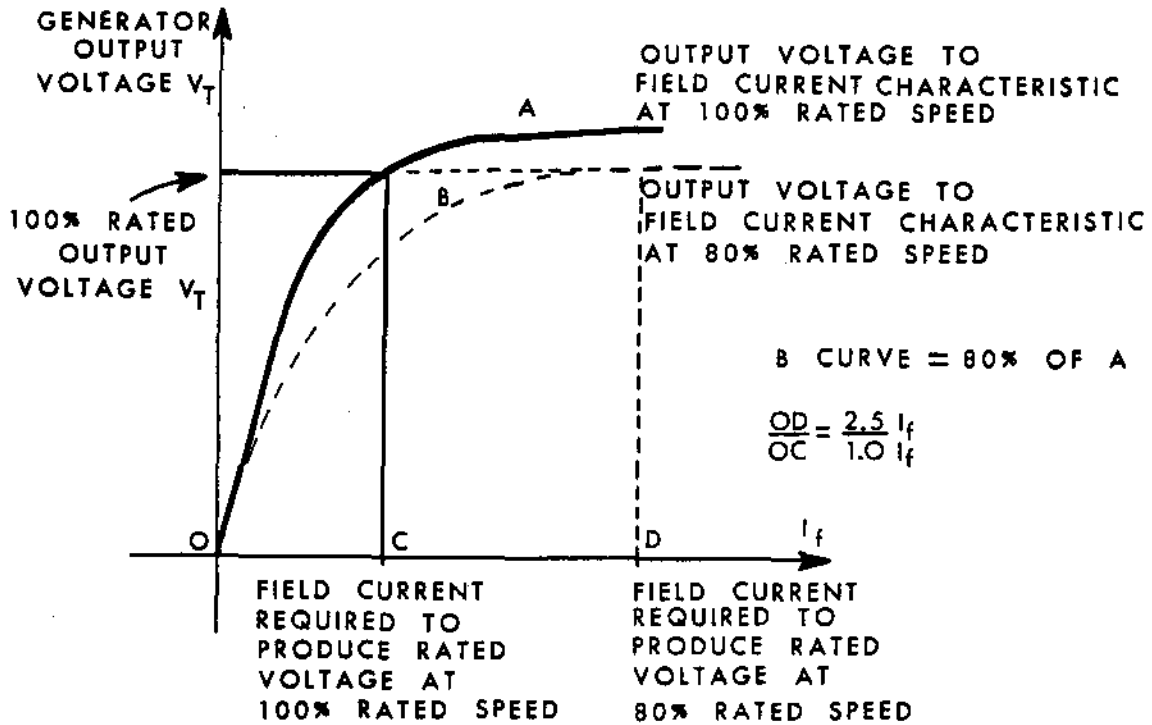

Figure 2: Open circuit output voltage to field current characteristics for a generator at 100% and 80% rated speed.
Figure 2 shows typical output voltage to field current characteristics for a generator operating at 100% rated speed and 80% rated speed. Note that the iron core of the generator is now saturated or **overfluxed** and that the field current has increased by a factor of 2.5. Overfluxing and excess rotor currents cause three problems. The explanations of these problems follow.
- (b) **Generator Stator Damage.** Figure 2 shows for the generator to produce rated voltage at 80% rated speed, the flux must be increased in the ratio $\frac{100}{80}$, ie, 1.25 times. Consequently, the iron in the stator core is highly fluxed and almost fully saturated, ie, it is overfluxed. Overfluxing gives excessive eddy current and hysteresis heating, and thus the iron can be overheated in the matter of minutes. It should also be appreciated that as the magnetic fluxes increase, the mechanical forces created by the fluxes also increase.